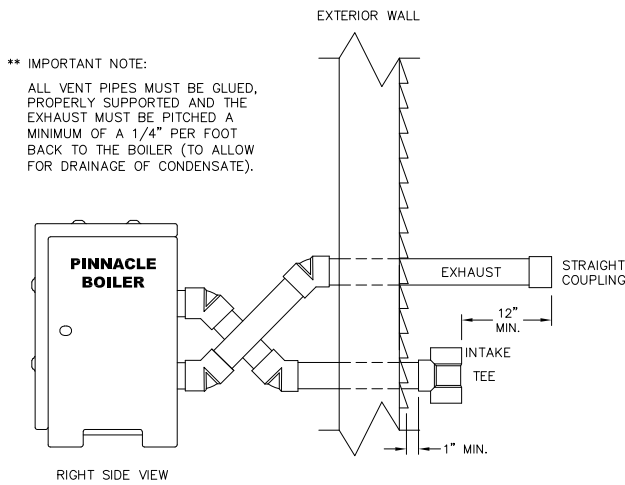
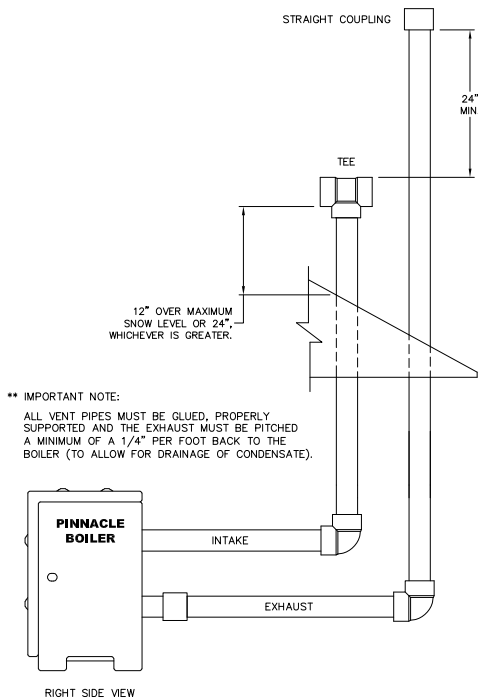
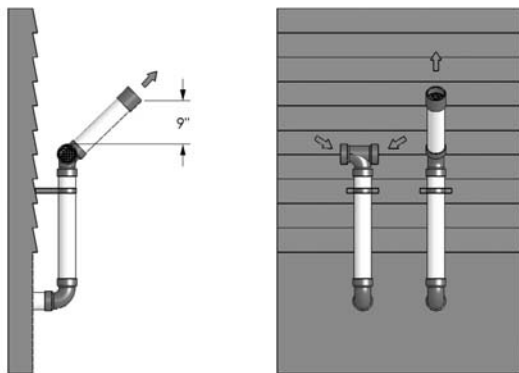

Figure 5.3: PI-80, PI-140, and PI-199 Sidewall Venting with 3" Pipe (Exhaust Termination at Higher Elevation than Air Intake).
Figure 5.11: PI-80, PI-140, PI-199 Vertical Venting with 3" Pipe.
Figure 5.15: Sidewall Venting Below Grade
12. Refer to Figure 5.3 to 5.10 for sidewall venting and Figures 5.11 to 5.14 for vertical venting. Refer to Figure 5.15 for sidewall venting below grade.